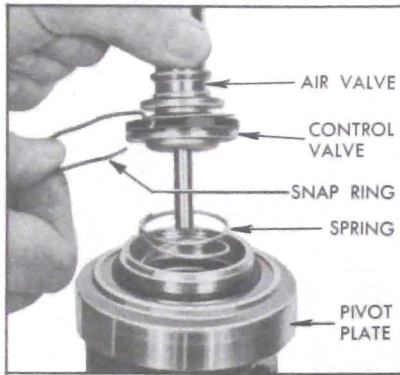

Figure 9-19—Removing Air Valve with Control Valve
equivalent, with push rod up. Remove snap ring then lift the air valve with attached control valve out of pivot plate, and remove the reaction spring. See figure 9-19.
12. Place air valve return spring in bore of hydraulic piston and center the reaction spring on the reaction levers. Lubricate small stem of air valve and rim of rubber diaphragm with silicone grease, install air valve with control valve in pivot plate and install snap ring. See figure 9-19.